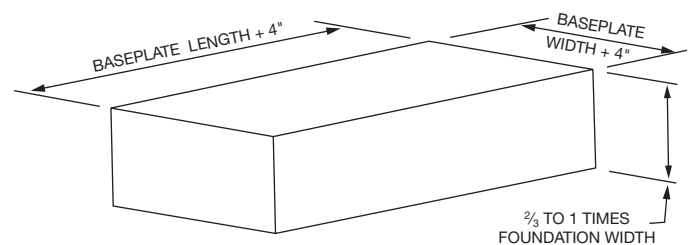
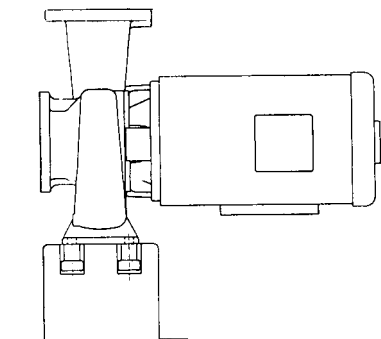

Fig. 1 – Foundation Block
Fig. 2 – Length Side of Foundation
The foundation serves to carry the pump weight and to absorb vibration. Normally, the foundation is made of a concrete block, preferably tied in with the floor or ground. Make the foundation block about 4" longer and 4" wider than the base of the frame. Height of the block may vary from $\frac{2}{3}$ to 1 times the width of the foundation (Fig. 1). When foundation is poured, provide a hole near each of the four (4) corners. To simplify installation and maintenance use lead Anchors. Place the front Anchor about 2" from the edge of the foundation to clear overhanging casings (Fig. 2).